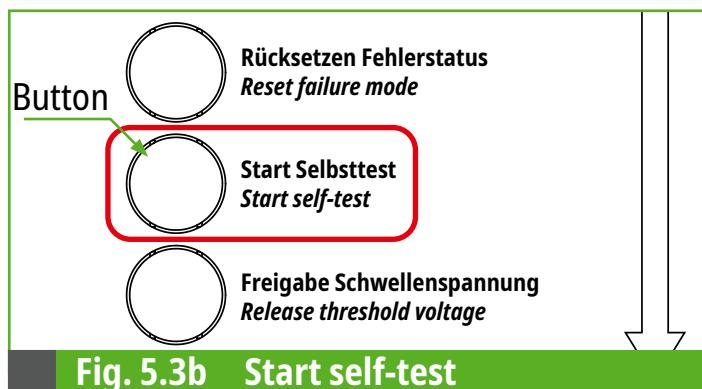

Fig. 5.3b Start self-test
- ⇒ Press the „Start Selbsttest / Start self-test“button to start the self-test, see Fig. 5.3b